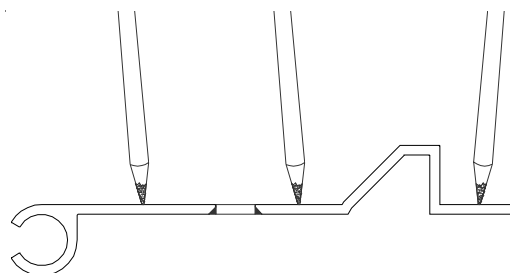
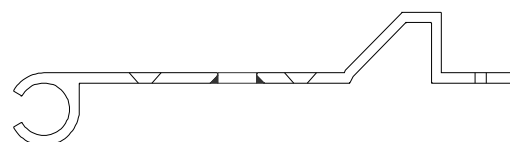

Figure 2
Figure 3
**STEP 3.** Select a section of the base member. If the anchor holes have not been predrilled in the base members at the factory, mark the locations for the anchor holes on the selected base member (see Figure 2). Standard anchor spacing is 20" O.C. with an anchor at a nominal 3" from each end of the base member. Drill the anchor holes for the hex head anchors and for the flat head anchors into the base members at the marked locations (see Figure 3). The anchor holes for the flat head anchors must be countersunk.